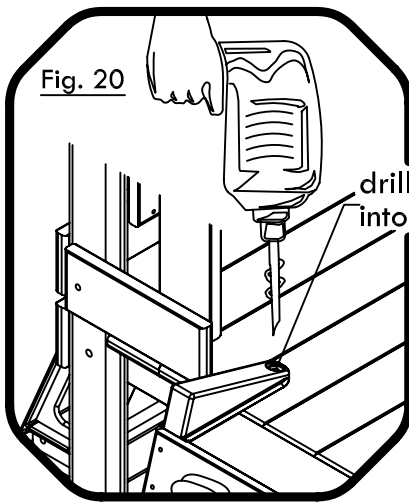

Fig. 20
Step 4: Place the Rockwall Assembly centered in the opening shown, and using a drill with a 5/16" bit and using the Bracket as a guide, drill a hole through the fort floor. (see Fig. 20)